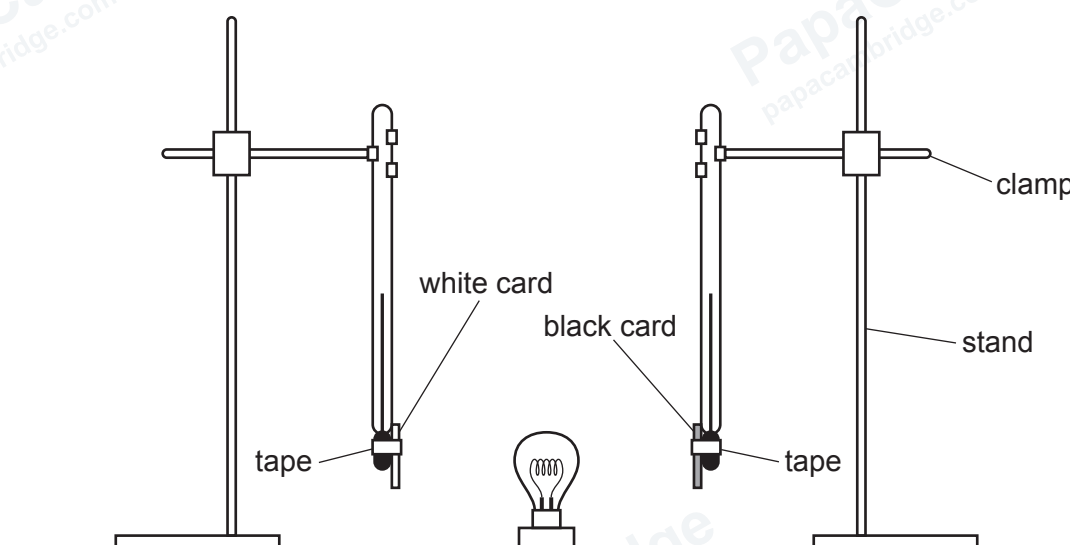

Figure 2.1
- 2 The clamps, bosses and stands must be set up for candidates with the thermometers clamped securely as shown in Figure 2.1. The clamps must not obscure the graduations on the thermometers. The bulb of each thermometer must be level with the filament of the lamp.
Restore the apparatus to the state shown in Figure 2.1.